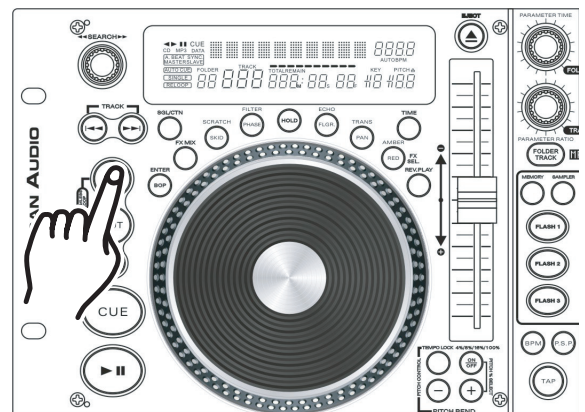

Figure 31
- 2) Press the *IN BUTTON* (33) (Figure 31) at the point you want your BOP to take place.